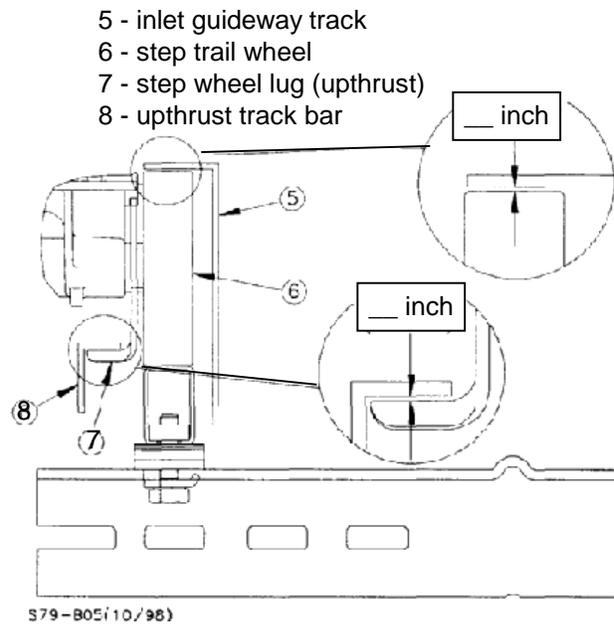

Figure 8-10j O&K Step Chain Wheel Upthrust Clearance
33. What is the clearance between the step trail wheel lug and the upthrust track bar in figure 8-10j?
34. What is the clearance between the inlet guideway track and the step trail wheel in figure 8-10j?